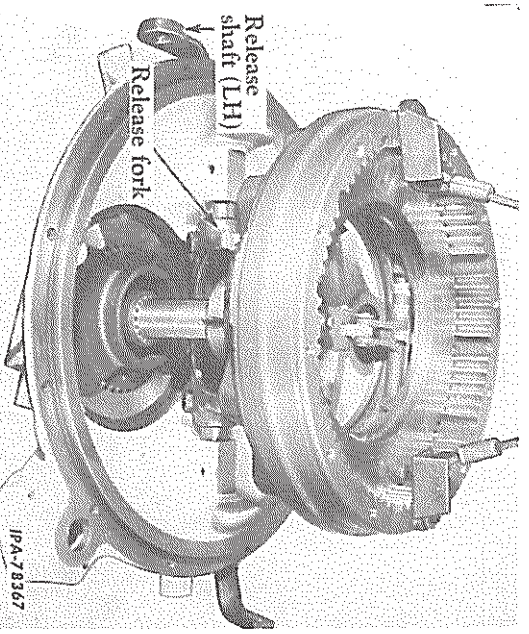

FIG. 8 — Removing the Drive Ring from the Clutch Housing
5. Lift the drive ring with back plate and camshaft assembly from the clutch housing. As the assembly is removed, the release fork will slip off of the bearing carrier trunnions. If necessary a pry bar can be used against the clevis of the left hand release shaft to fully engage the clutch to allow the fork to fall free of carrier trunnions (Fig. 8).